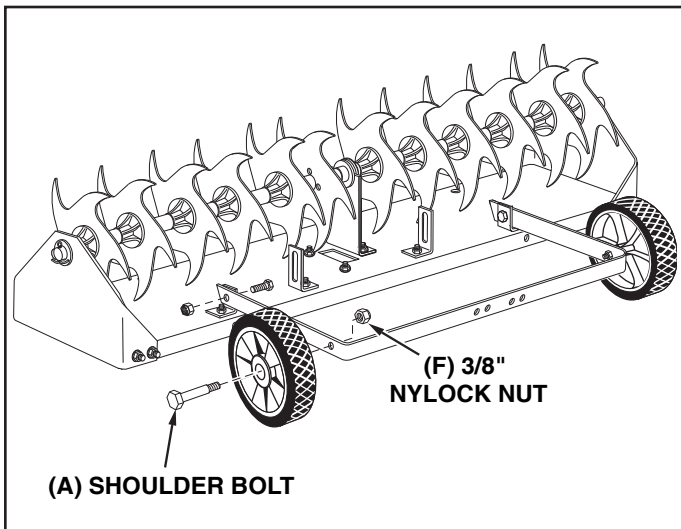

FIGURE 9 REAR VIEW
- Assemble the wheels to the axle bracket using a shoulder bolt (A) and a 3/8" nylock nut (F) for each wheel. **Tighten**. See figure 9.